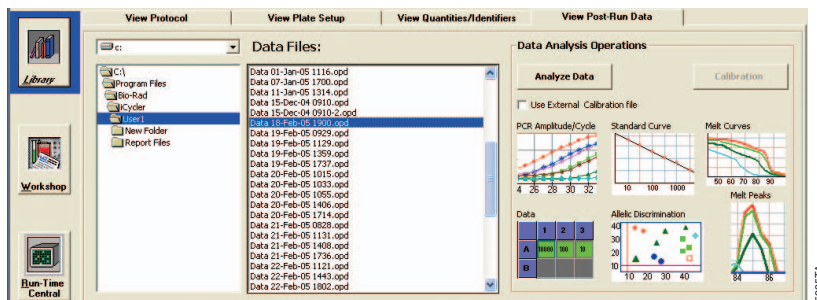

Figure 22. The “View Post-Run Data” in the Library module.
2. Select the “View Post-Run Data” tab (Figure 22).